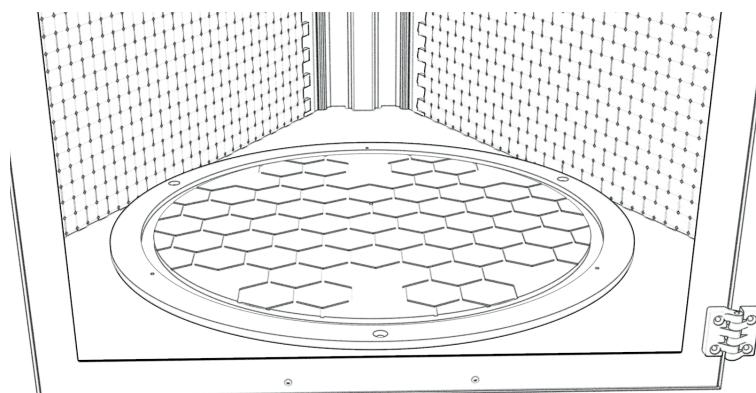

Fig. 8.12a - Clean the aluminum vacuum bed
1. With the machine turned on, check the cleanliness of the aluminum vacuum bed. (fig 8.12a)